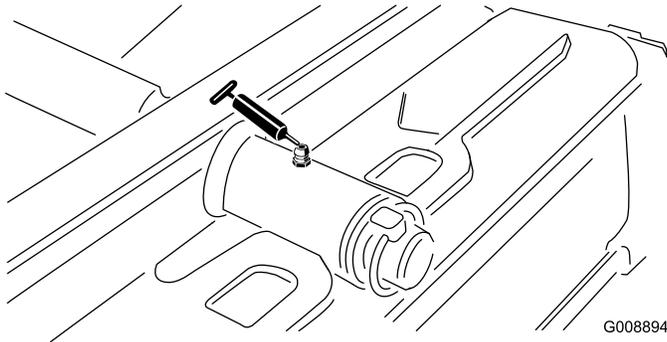

Figure 30
- Rear cutting unit pivot (Figure 30)